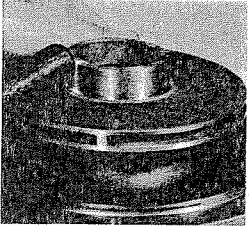

FIGURE 2
3. Place bracket in vertical position, impeller up and loosen screw at center of impeller two turns. (7/16 Hex Head) This screw has a left-hand thread. Tap impeller at its outside diameter with handle of hammer to free tapered fit between shaft and impeller and completely remove screw, washer, and impeller. (see Figure 2)